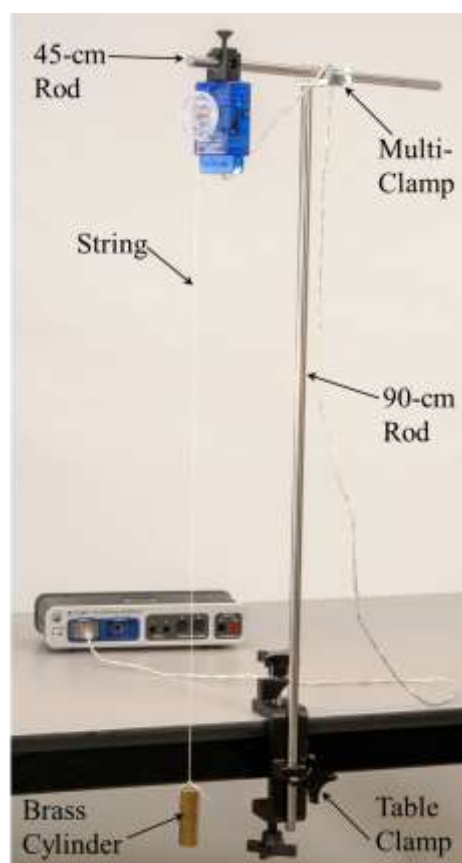

Figure 1: Simple Pendulum
The purpose of this experiment is to use measurements of the motion of a simple pendulum to calculate and compare the different types of energy present in the system. A Rotary Motion Sensor (see Figure 1) is used to record the motion of the pendulum as it swings back and forth, and software calculations are used to determine the values of the various energy types during the oscillations.
1. Attach the table clamp and 90-cm rod to the table as shown in Figure 1. Use the multi-clamp and 45-cm rod to suspend the Rotary Motion Sensor out over the floor.
4. Tie the brass cylinder to the lower end of the string as shown in Figure 1. You want the string as long as possible, without the cylinder touching the floor.